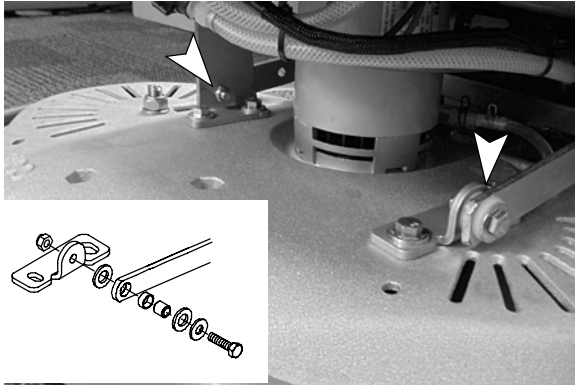

FIG. 65
1. Using a 13 mm wrench, disconnect the scrub head lift arms from the scrubhead mounting brackets as shown (Figure 65).